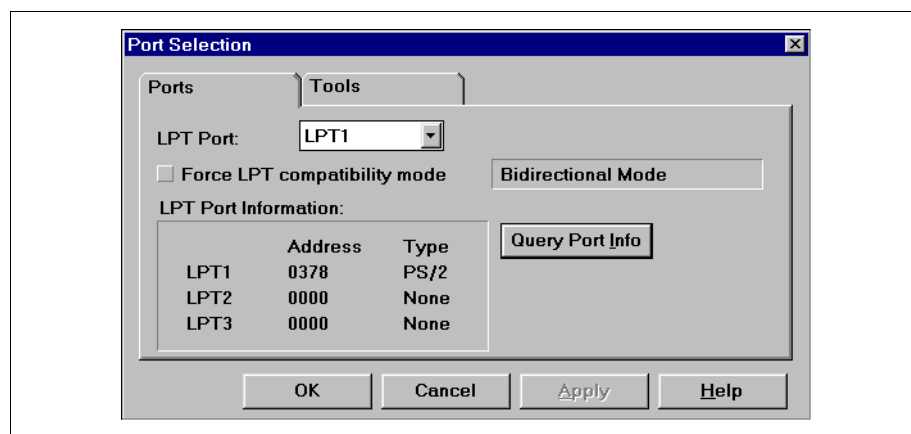

Figure 7.5: Port Selection Dialog - Ports Tab
- Ports – Set the LPT port for communications with MPLAB ICE (Figure 7.5).